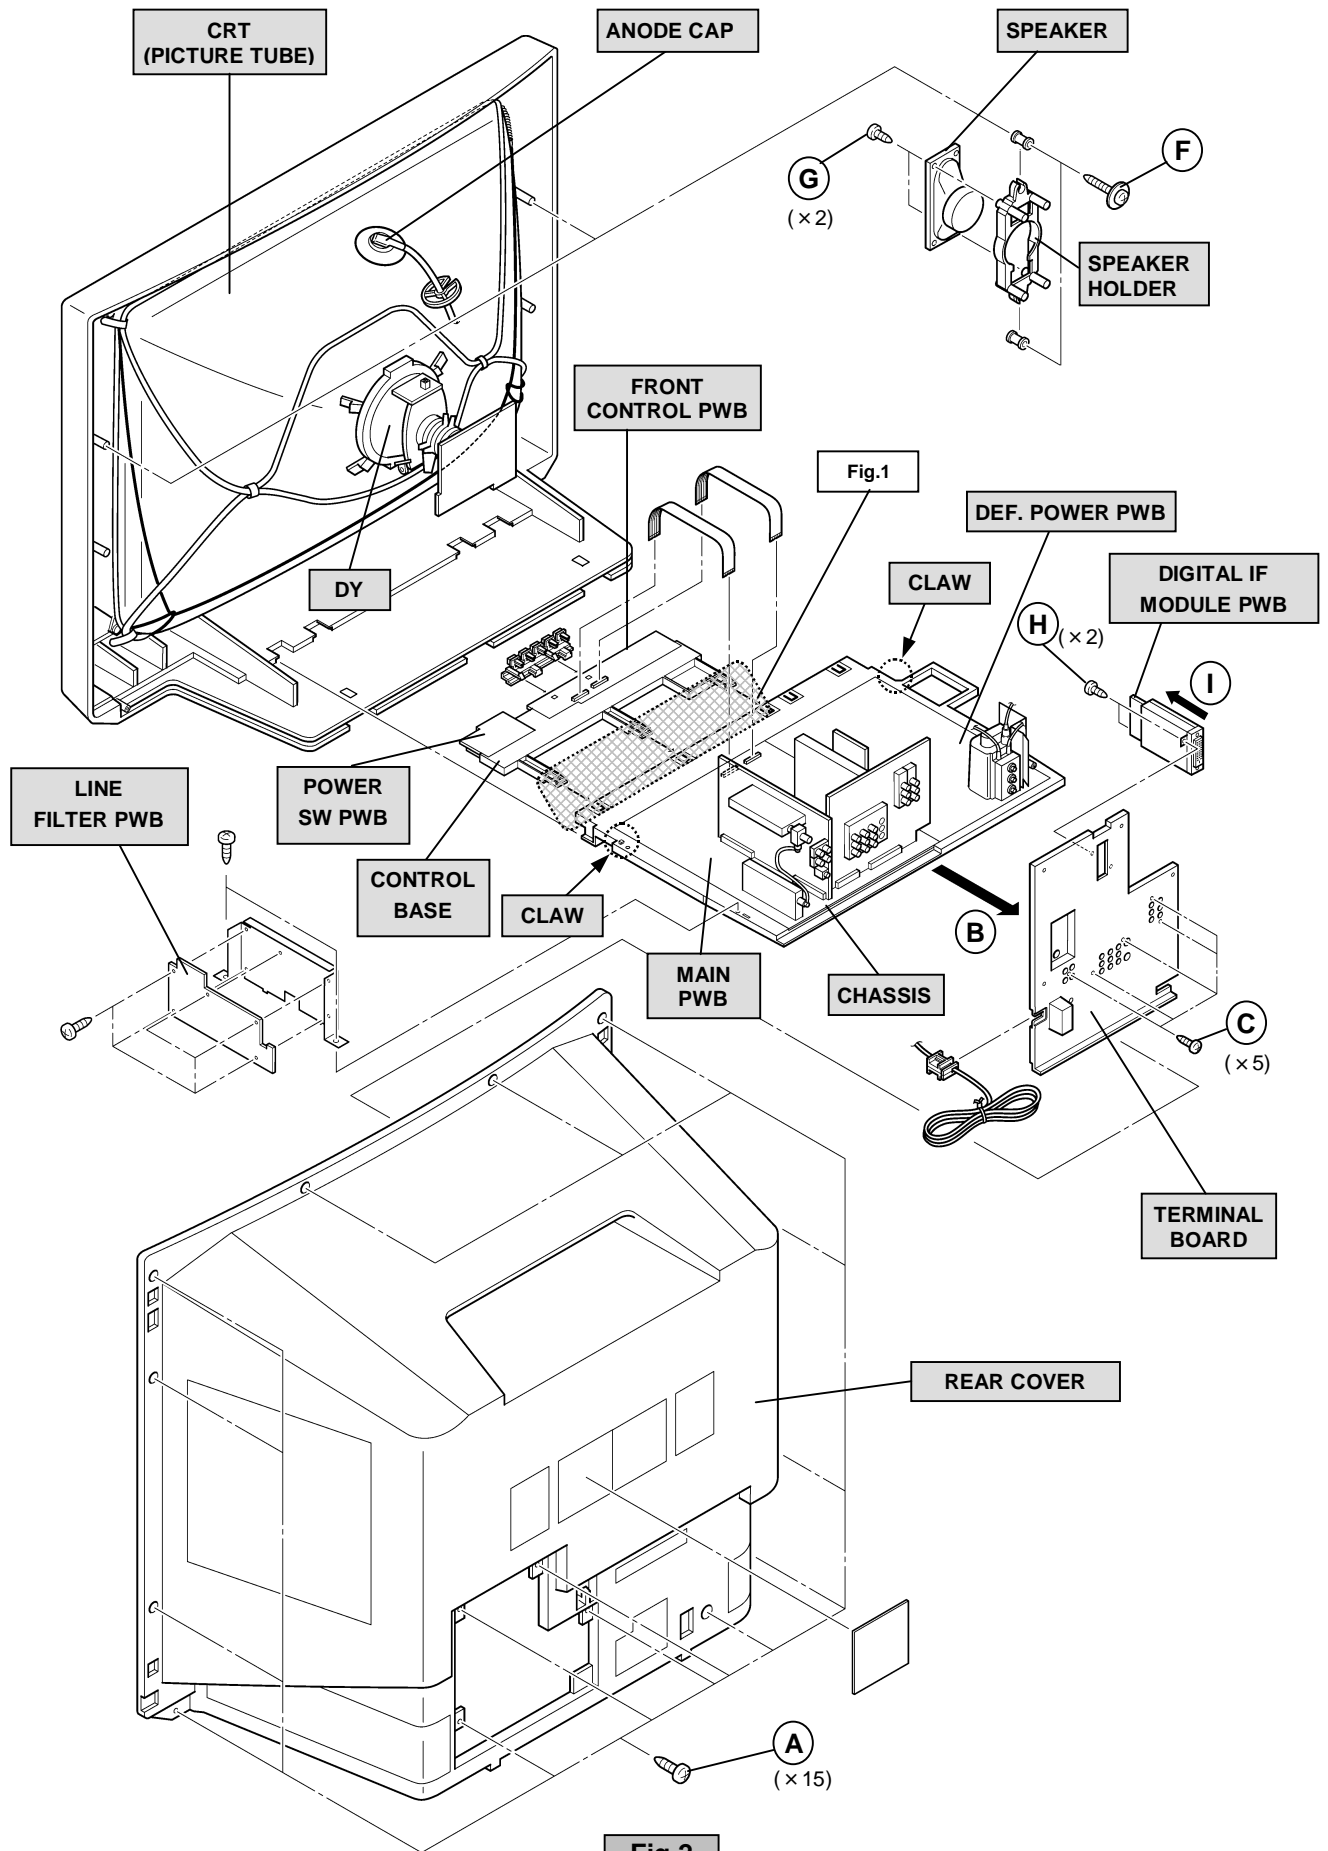

Fig.2
1. Remove the 5 screws marked (C) as shown in Fig.2.
2. When you pull out the TERMINAL BOARD in the direction of arrow marked (B) as shown in Fig.2, it can be removed.
1. Remove the 2 screws marked (F) as shown in Fig.2, then remove the speaker holder toward you.
2. Remove the 2 screws marked (G) as shown in Fig.2.
1. Remove the 2 screws marked (H) as shown in Fig.2.
2. Remove the DIGITAL IF PWB in the arrow direction marked (I)